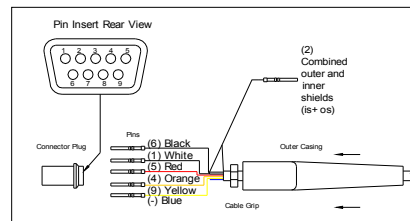

Fig 2.1
12. Insert pins into correct locations (as shown in fig 2.1) and push firmly into place.